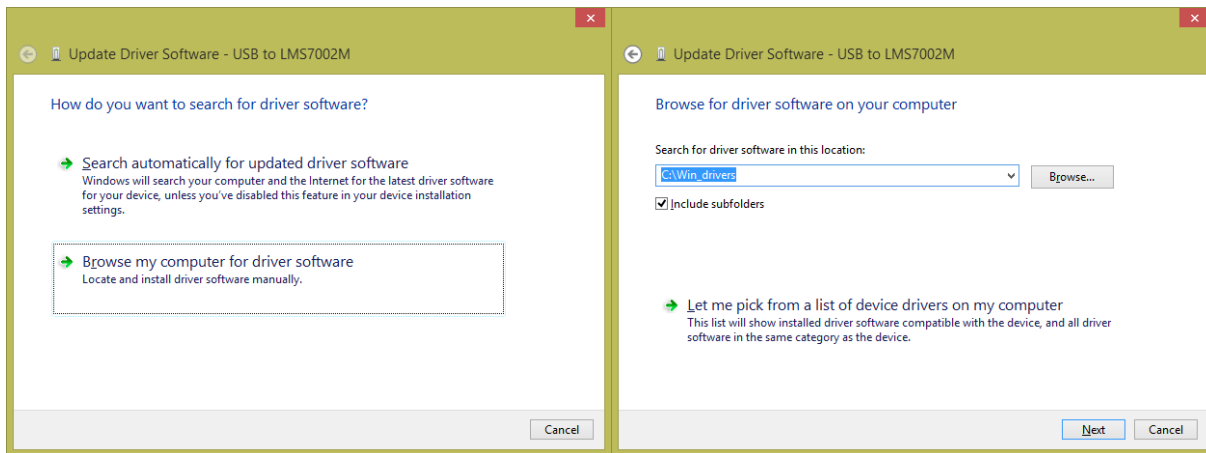

Figure 5 Update Driver Wizard.
5. Select **Browse my computer for driver software**, locate the driver provided with EVB7 board and press **Next** Figure 5